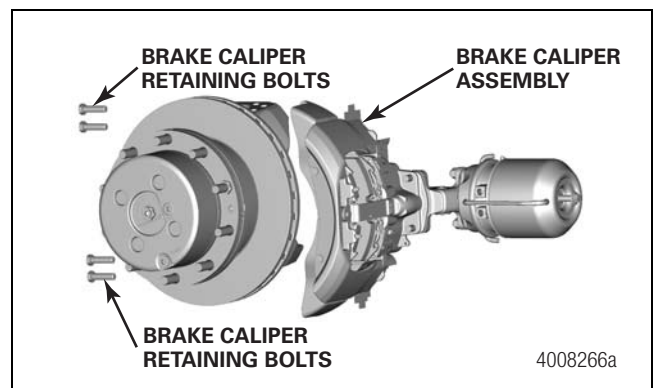

Figure 9.9
2. Remove the four caliper mounting bolts. Lift the brake caliper assembly and remove it from the wheel end. Figure 9.9.